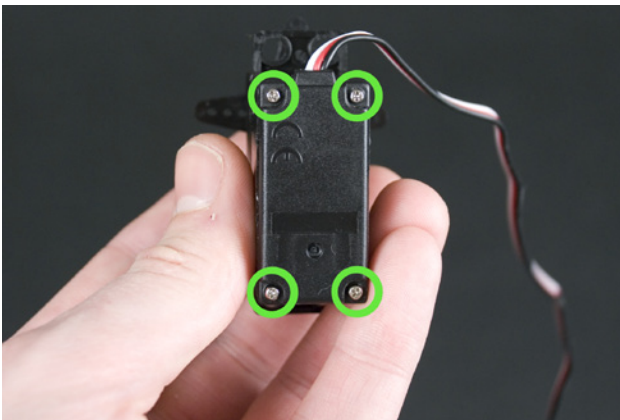

Figure 8-7. Screws to be removed
2. Remove the four screws from the bottom of the servo, as shown in Figures 8-7 and 8-8, and set them aside.